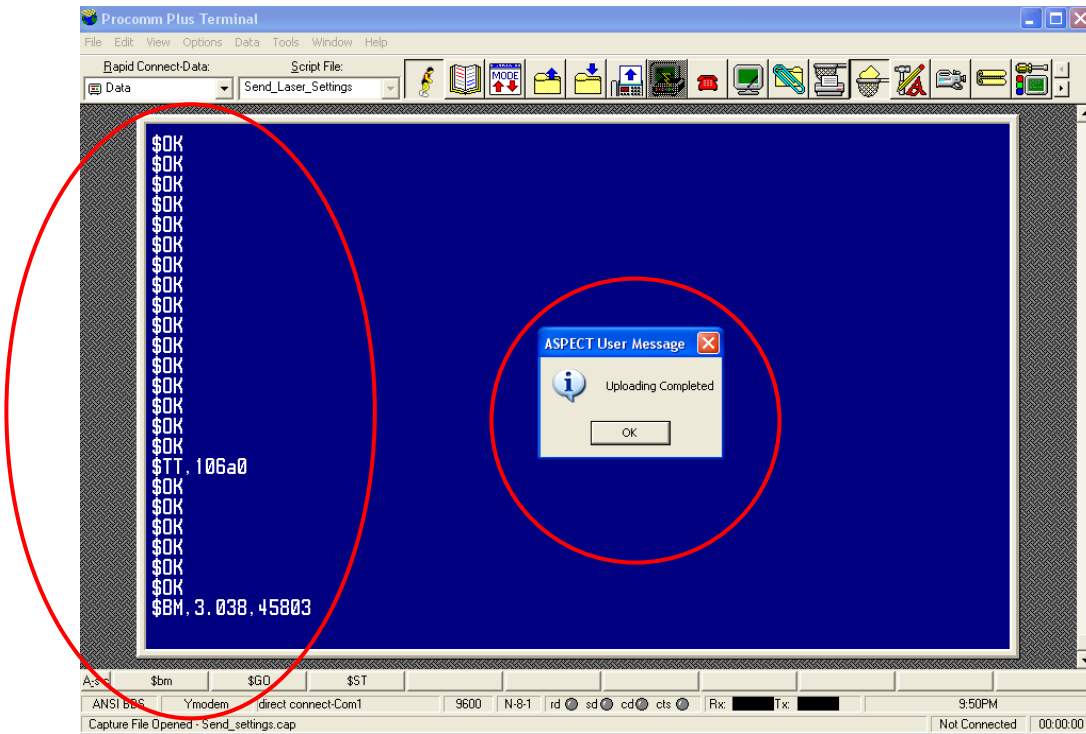

Figure 3-29. Click OK to end the script.
9. A new user message will appear when all settings have been sent to the sensor. Click **OK** to close the **Capture file** and end the script (figs.3-29 and 3-30).